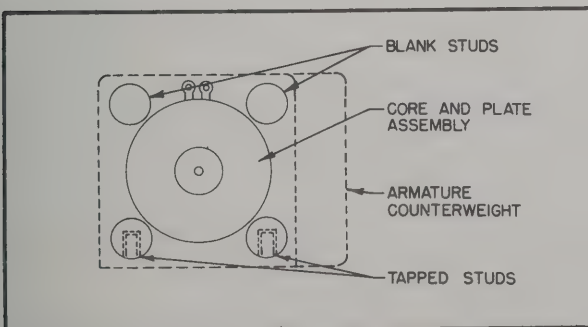
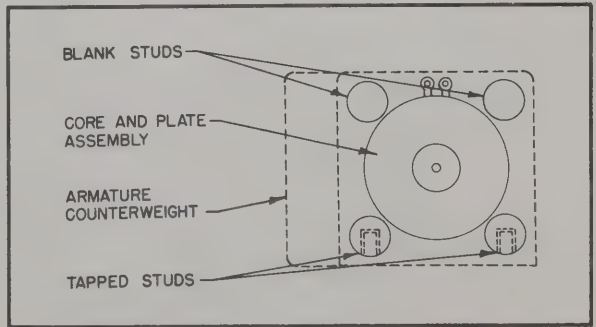

Figure 9-4. Assembling Voltage Amplifier
Figure 9-5. Assembling Frequency Amplifier
a. Place a small amount of varnish, Schenectady ST 6, or equivalent, on the core and plate assembly (23). Allow the varnish to become tacky.
b. Install the coil assembly (22) on the plate and core assembly (23). On both amplifiers, the blue (P) terminal must be closest to the plate and core assembly (23). The terminals should be perpendicular to one side of the core and plate assembly.
c. Install center plate (21) on core and plate assembly. Make certain center plate fits square and the mounting holes align with the holes in plate and core assembly. The finished side of the center plate must be outward.
d. Place assembled unit on a flat surface with the plate and core assembly forward. Terminals must be positioned as shown in figure 9-4 for the voltage amplifier and figure 9-5 for the frequency amplifier.
e. Install the studs (19 and 20, figure 4-4) as shown in figures 9-4 and 9-5.
shown in figure 9-4 for voltage amplifier and figure 9-5 for frequency amplifier. Attach with two collar spacers (16), fulcrum spring (17) and two screws (13) at counterweight end.
h. Stand assembly up so that it rests on armature assembly. Install rod and contact assembly (8) in opening in center of core and plate assembly (23).
i. Install the carbon pile tube (7) in the radiator (6) and position the carbon pile tube on the center plate (21) so that it is supported by the end of the core of the core and plate assembly (23). Place on the two top studs (18) protruding beyond the radiator (6), the radiator spacer (4) so that straight side of radiator spacer (4) is toward the carbon pile tube (7). Radiator spacer prevents radiator from shorting out on contact plate.
j. Without touching with the fingers slide a new carbon pile (5) out of its glass container and onto a clean, smooth 1/8-inch rod or equivalent tool. Gently shake the rod to separate the pile discs and inspect for broken discs. Insert the rod into the carbon pile tube (7) until the rod touches the contact on the end of the rod and contact assembly (8). Tip the unit and the rod to allow the discs to slide into the carbon pile tube. Withdraw the rod and gently tap the assembly to insure that all discs are level.
k. Assemble the contact and plate assembly (1) to the radiator studs (18) using four nuts (2) and lock washers (3). The contact protruding from the contact and plate assembly must be toward the same side as the armature counterweight (12). Refer to figure 9-4 or 9-5.